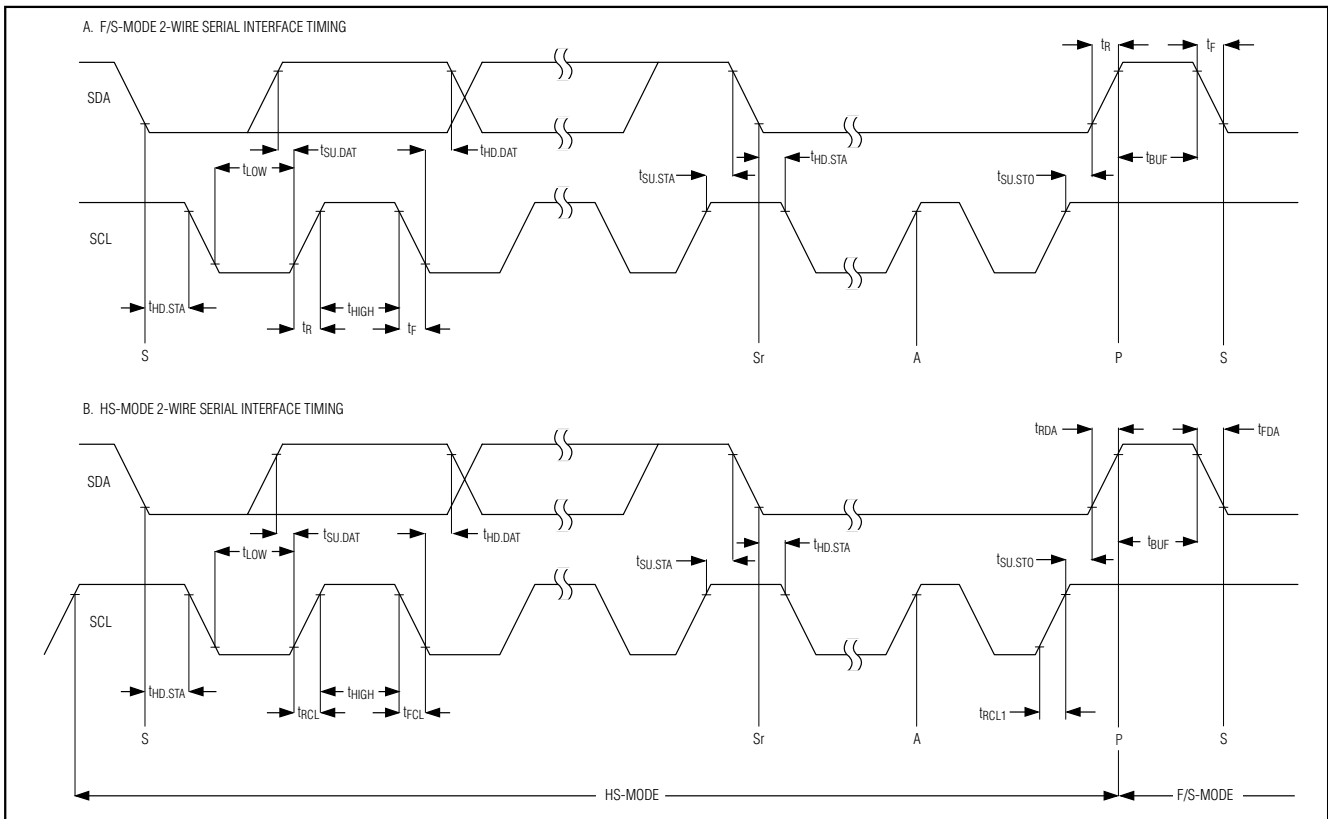

Figure 1. 2-Wire Serial Interface Timing
### TIMING CHARACTERISTICS (Figure 1)
## TIMING CHARACTERISTICS (Figure 1) (continued)
- Note 10:** A master device must provide a data hold time for SDA (referred to VIL of SCL) in order to bridge the undefined region of SCL's falling edge (see Figure 1).
up to 22.2ksps. The MAX1136–MAX1139 must operate in high-speed mode (HS-mode) to achieve conversion rates up to 94.4ksps. Figure 1 shows the bus timing for the MAX1136–MAX1139's 2-wire interface.